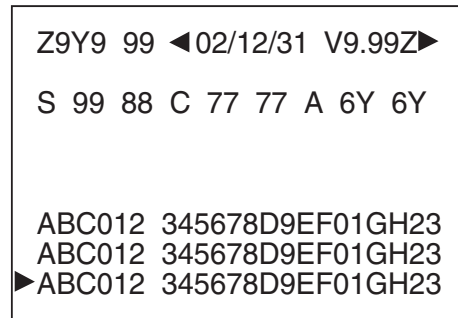

Fig. 3-2c
- 3) Press the DISPLAY button and release it, and then, within 0.5 second, hold down the following 2 buttons for at least 3 seconds to display the test mode screen (Fig. 3-2c: Has nothing to do with this function):